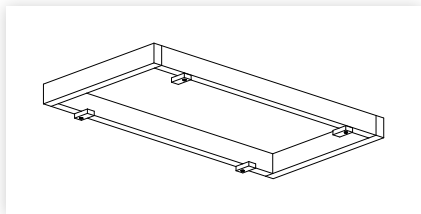

figure 7
1. Screw four temporary cleats approx 80mm x 40mm into your timber frame as shown in (figure 7). Ensure cleats can be rotated.